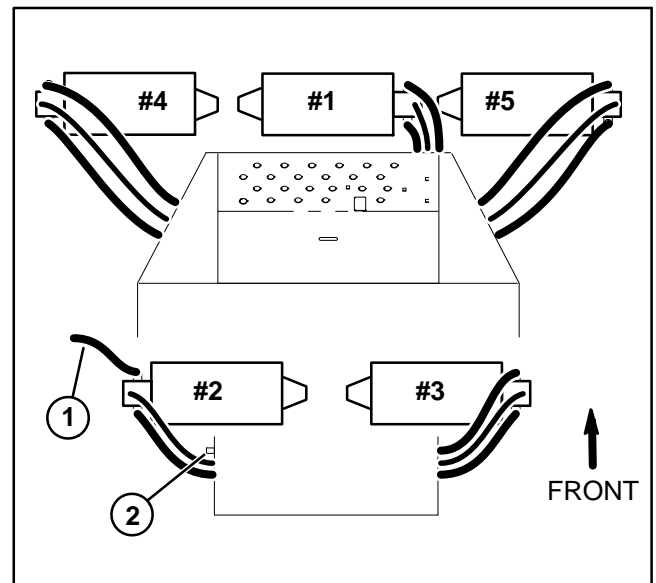

Figure 33
3. Disconnect the inlet hose for the rear left (cutting unit #2) reel motor at the frame bulkhead fitting (Fig. 33).